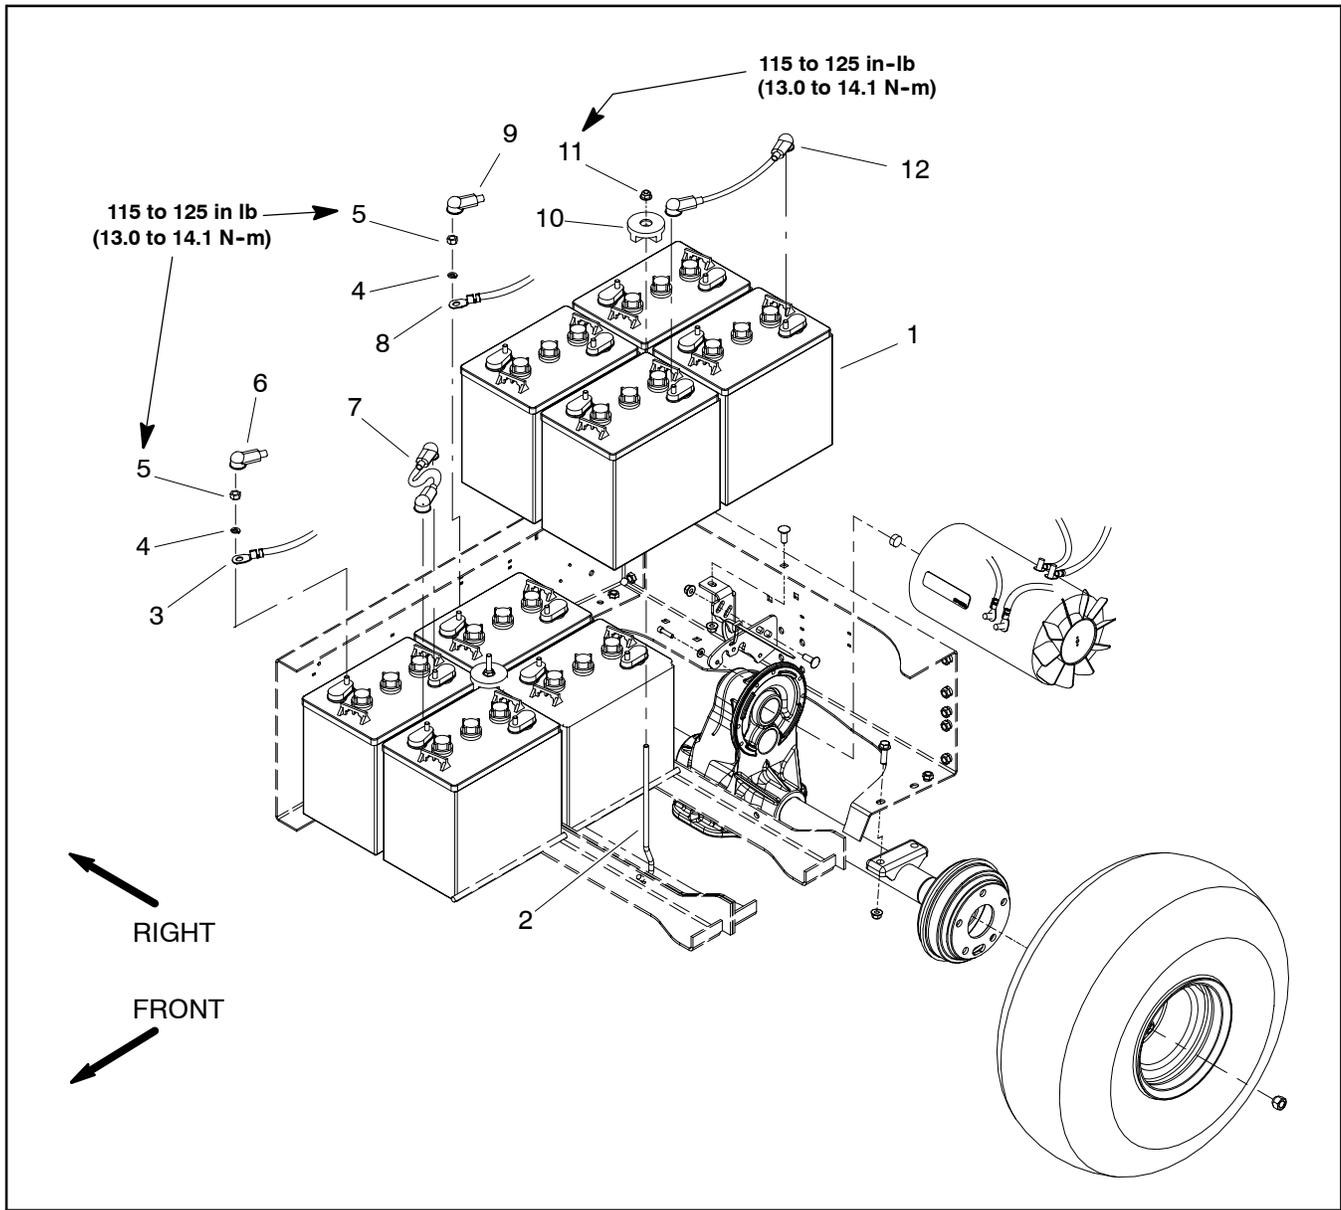

Figure 42
## Battery Removal (Fig. 42)
## Battery Installation (Fig. 42)
5. Install all but one of the battery cables used to connect battery pack including the positive (red) cable and negative (black) cable from vehicle (Figures 42 and 44). Make sure that cables are connected to correct battery terminal noting battery polarity. Install lock washer and nut on each battery terminal. Torque nuts from **115 to 125 in-lb (13.0 to 14.1 N-m)** to secure cables.